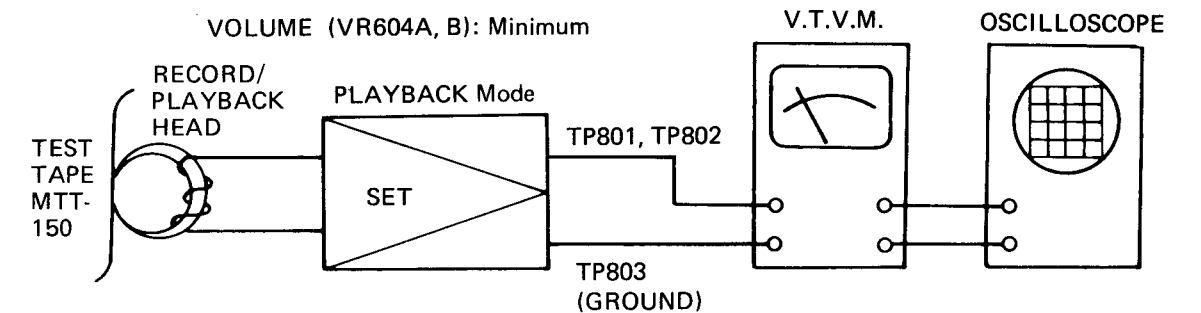

Figure 33
■ PLAYBACK/LEVEL METER SENSITIVITY ADJUSTMENT (Refer to Figures 33 and 41)